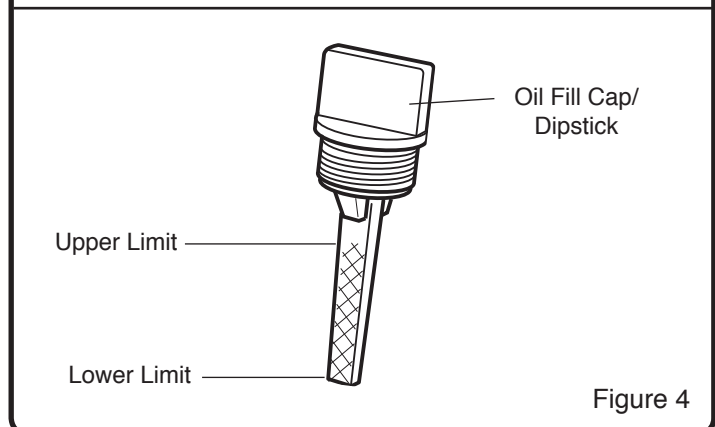

Figure 4
4. When oil level is full, the oil will be at upper limit on dipstick. If oil level is near or below the lower limit, oil must be added. (See Figure 4)